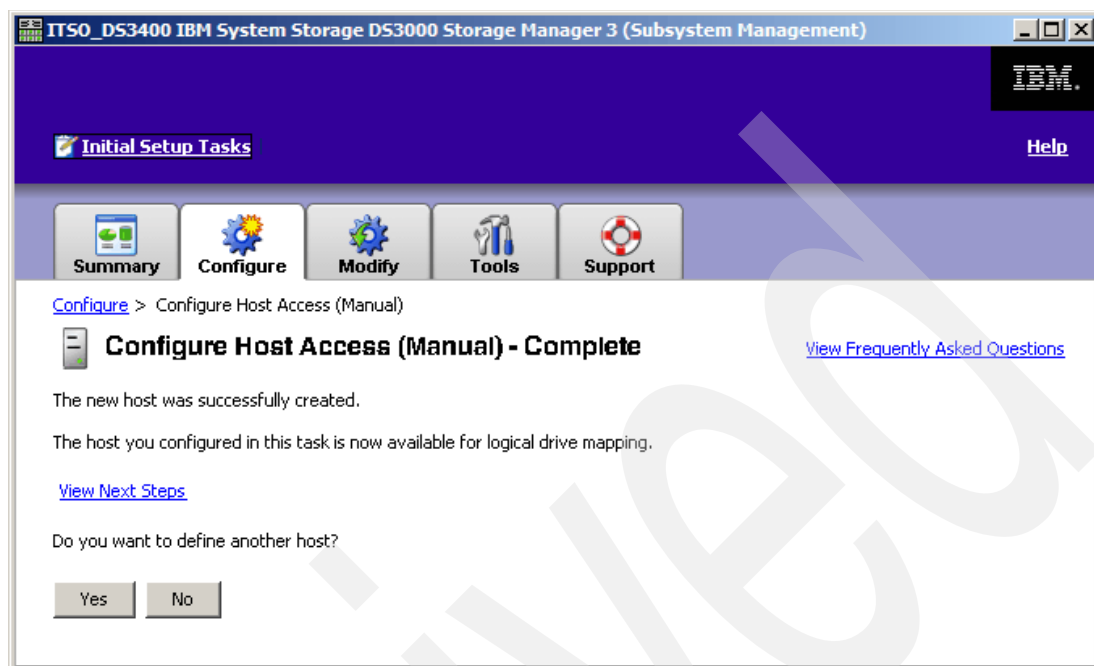

Figure 27-17 Host definition is complete
6. In the completion window (see Figure 27-17), you can define another host. As we will use just this host server, we do not want to define another one at this time. Click **No**.